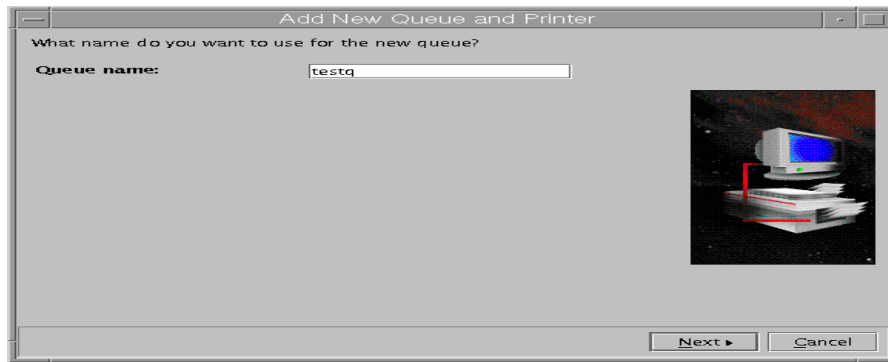

Figure 24. Entering the queue name
3. Enter the queue name for the new printer queue and click the **Next** button, as shown in Figure 24 on page 209.